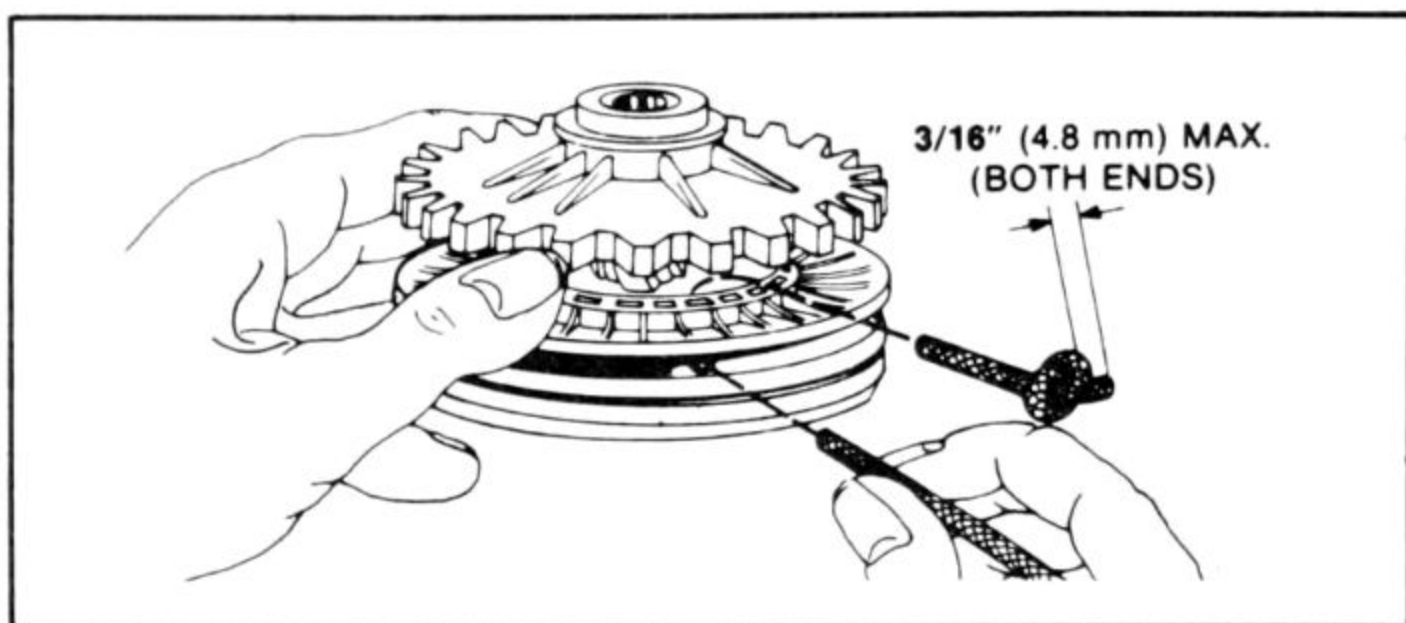

Fig. 4-26. A short length of piano wire aids rope insertion into sheave.
2. Guide the rope into the sheave with the help of a small screwdriver or stiff wire (Fig. 4-26).